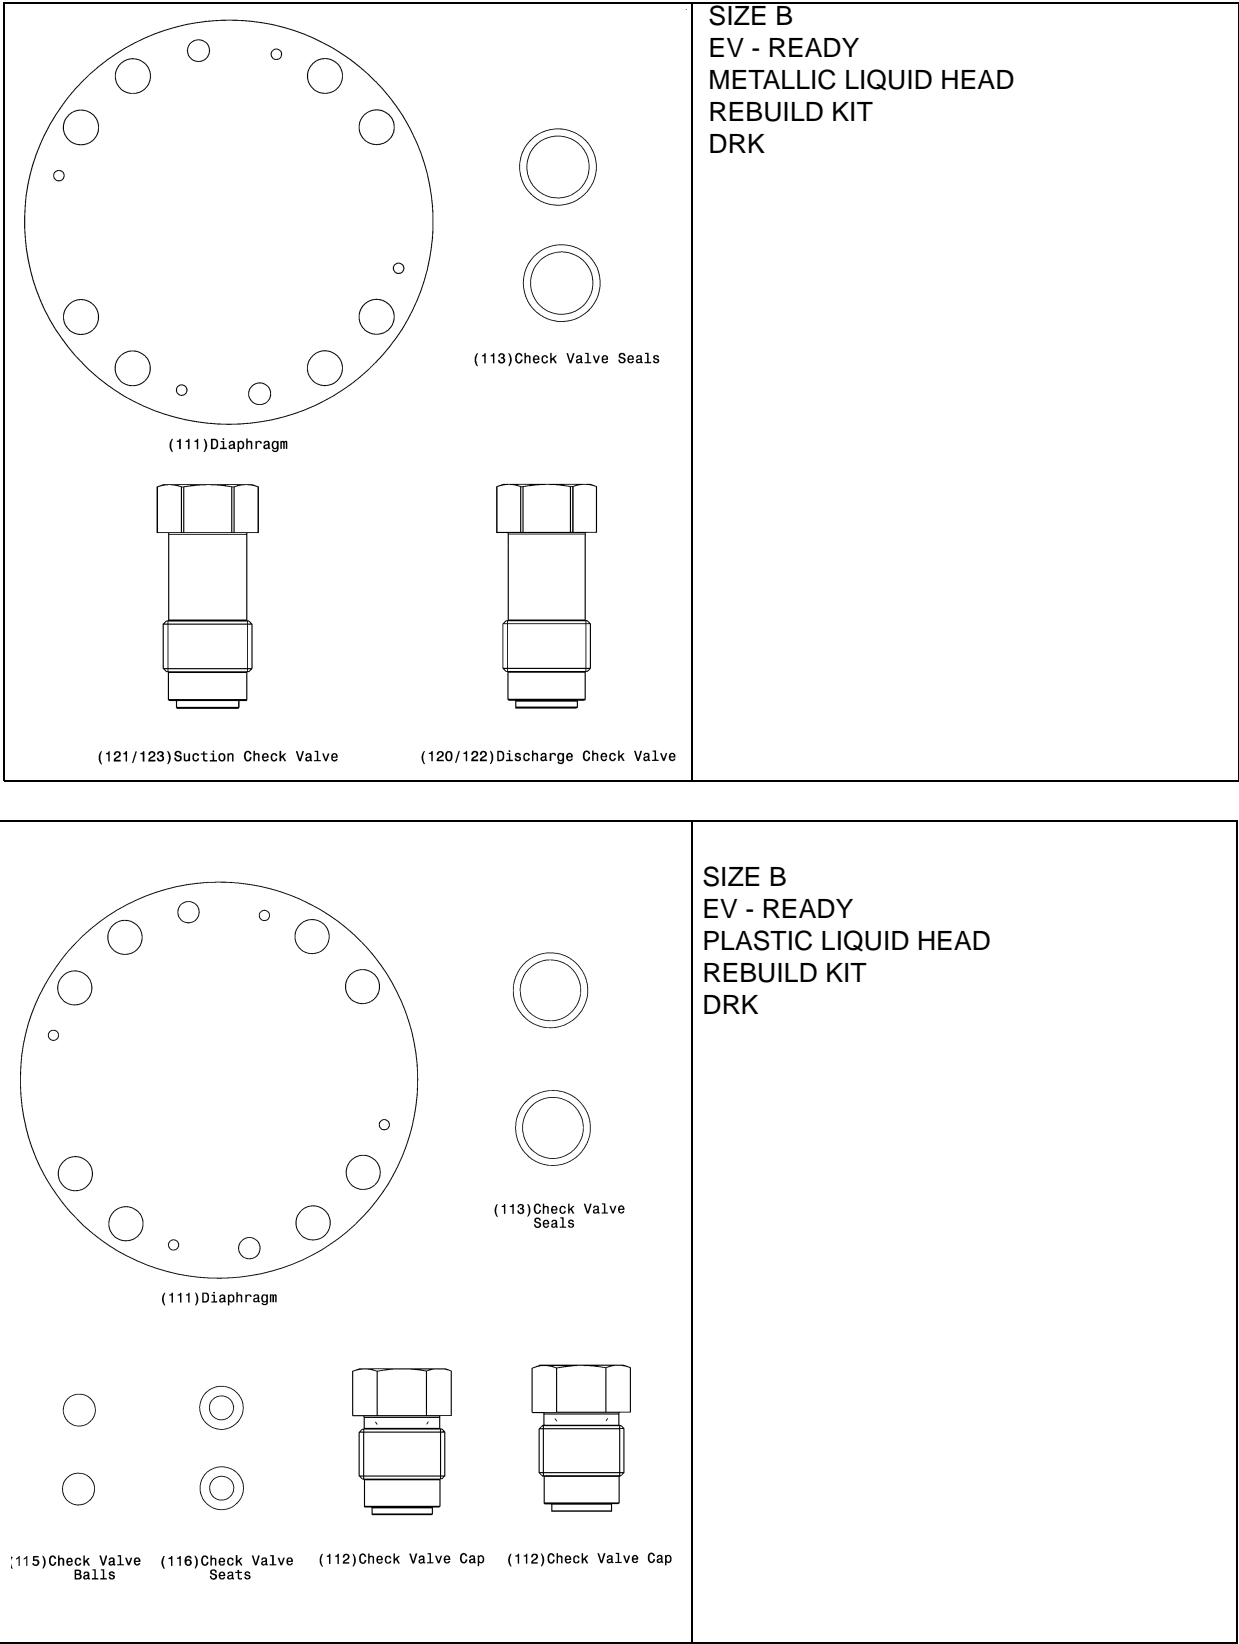

Figure 33. Metallic/Plastic Rebuild Kit, Size B.
6.13 METALLIC/PLASTIC REBUILD KIT, SIZE B (FIGURE 33)